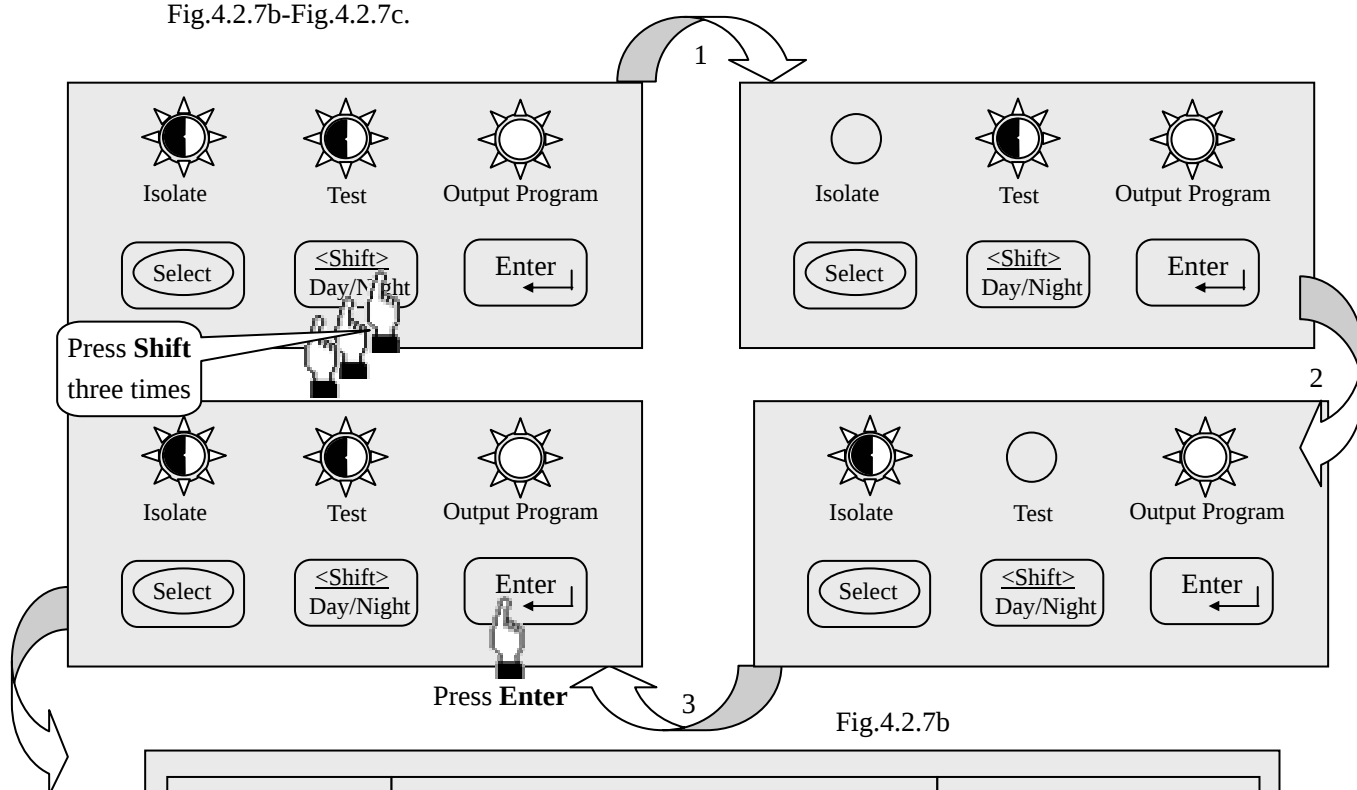

Fig.4.2.7b
4.2.7.2 In the output programming state, press the **Shift** pushbutton three times, then press the **Enter** pushbutton to confirm, the panel will enter in output delay configuring mode. See Fig.4.2.7b-Fig.4.2.7c.